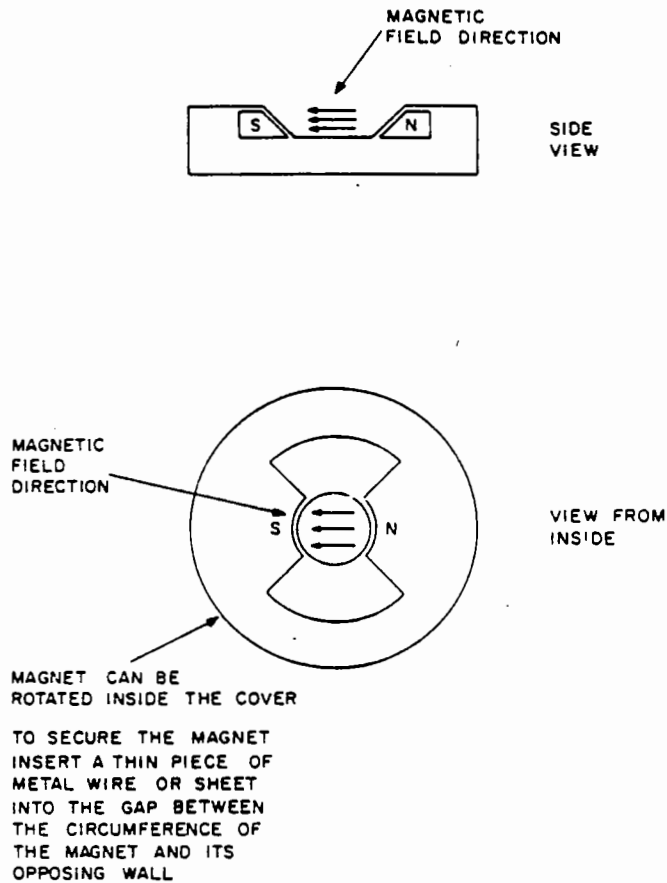
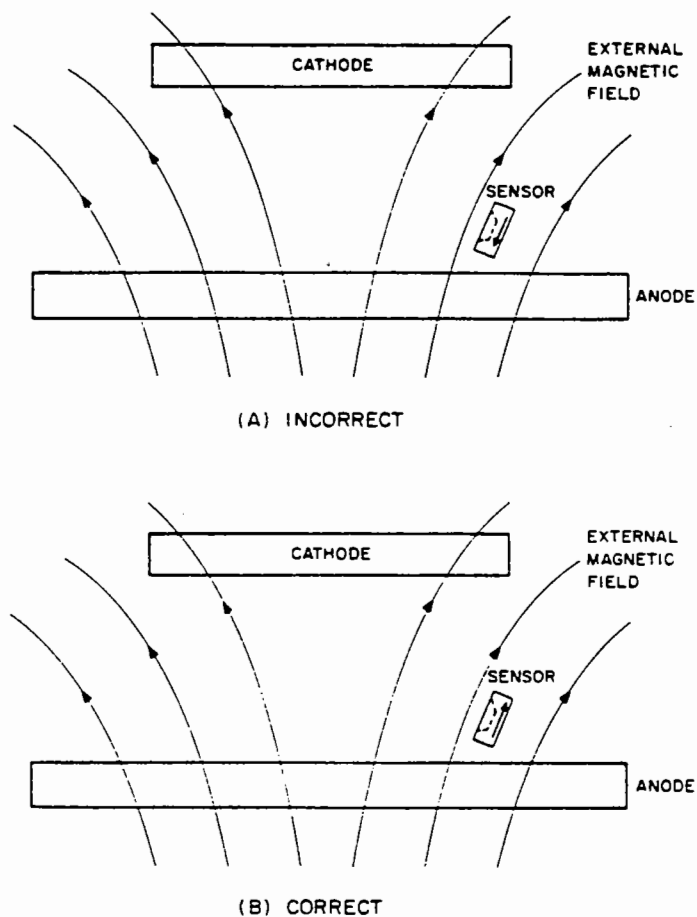

Fig. 3-3 Sensor Magnet & Field Configuration
Fig. 3-4 Orientation of Sensor Magnetic Field in a Sputtering System Employing External Magnetic Field
3. The sensor contains a permanent magnet (Fig.3-3). If the sensor is to be installed in a sputtering system which employs external magnetic fields, make sure the magnetic field direction of the sensor is not opposing the external magnetic field (Fig. 3-4).